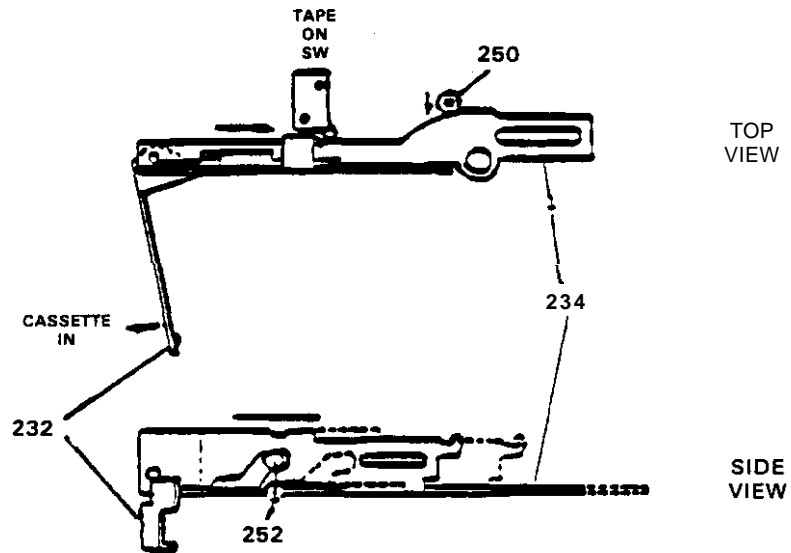

FIGURE 3-3. CASSETTE MOUNTING
The cassette pushes back the Trigger Plate (232), (see Figure 3-3.) The Eject Plate (234) is unlocked and slides forward. As the Eject Plate (234) moves, the Leaf Switches (tape-in switches 308/309) are turned ON, the H/P Roller (250) moves to the stop position, the H/A Roller (252) moves down, and the Cassette Housing (217) comes down to mount the Cassette Tape on the Reel Drivers (254).